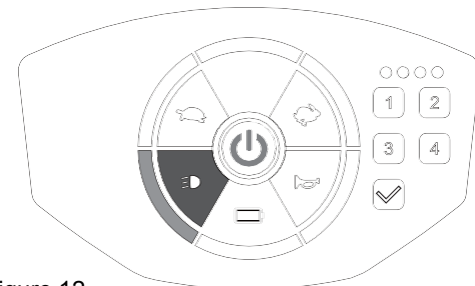

Figure 12
- Switch off by pressing the button again. The [💡] light will be off on the panel. (Figure 12)